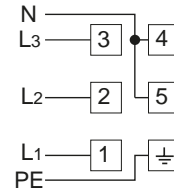

Fig. 2.3
- Connect the phase, neutral and earth wires to terminal board "G" according to the diagram in fig. 2.3.